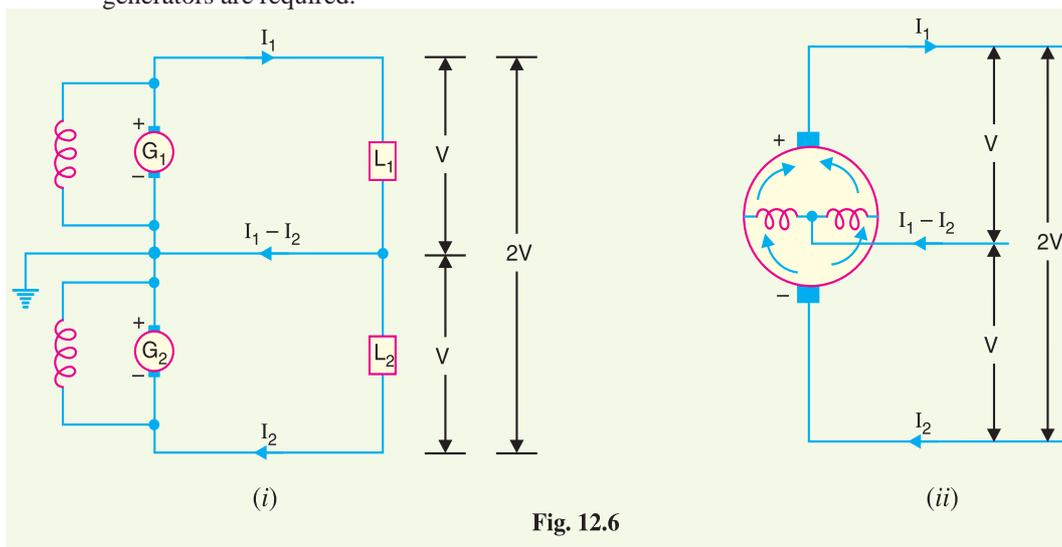

Fig. 12.6
- (i) **Two generator method.** In this method, two shunt wound d.c. generators  $G_1$  and  $G_2$  are connected in series and the neutral is obtained from the common point between generators as shown in Fig. 12.6 (i). Each generator supplies the load on its own side. Thus generator  $G_1$  supplies a load current of  $I_1$ , whereas generator  $G_2$  supplies a load current of  $I_2$ . The difference of load currents on the two sides, known as out of balance current ( $I_1 - I_2$ ) flows through the neutral wire. The principal disadvantage of this method is that two separate generators are required.
- (ii) **3-wire d.c. generator.** The above method is costly on account of the necessity of two generators. For this reason, 3-wire d.c. generator was developed as shown in Fig. 12.6 (ii). It consists of a standard 2-wire machine with one or two coils of high reactance and low resistance, connected permanently to diametrically opposite points of the armature winding. The neutral wire is obtained from the common point as shown.